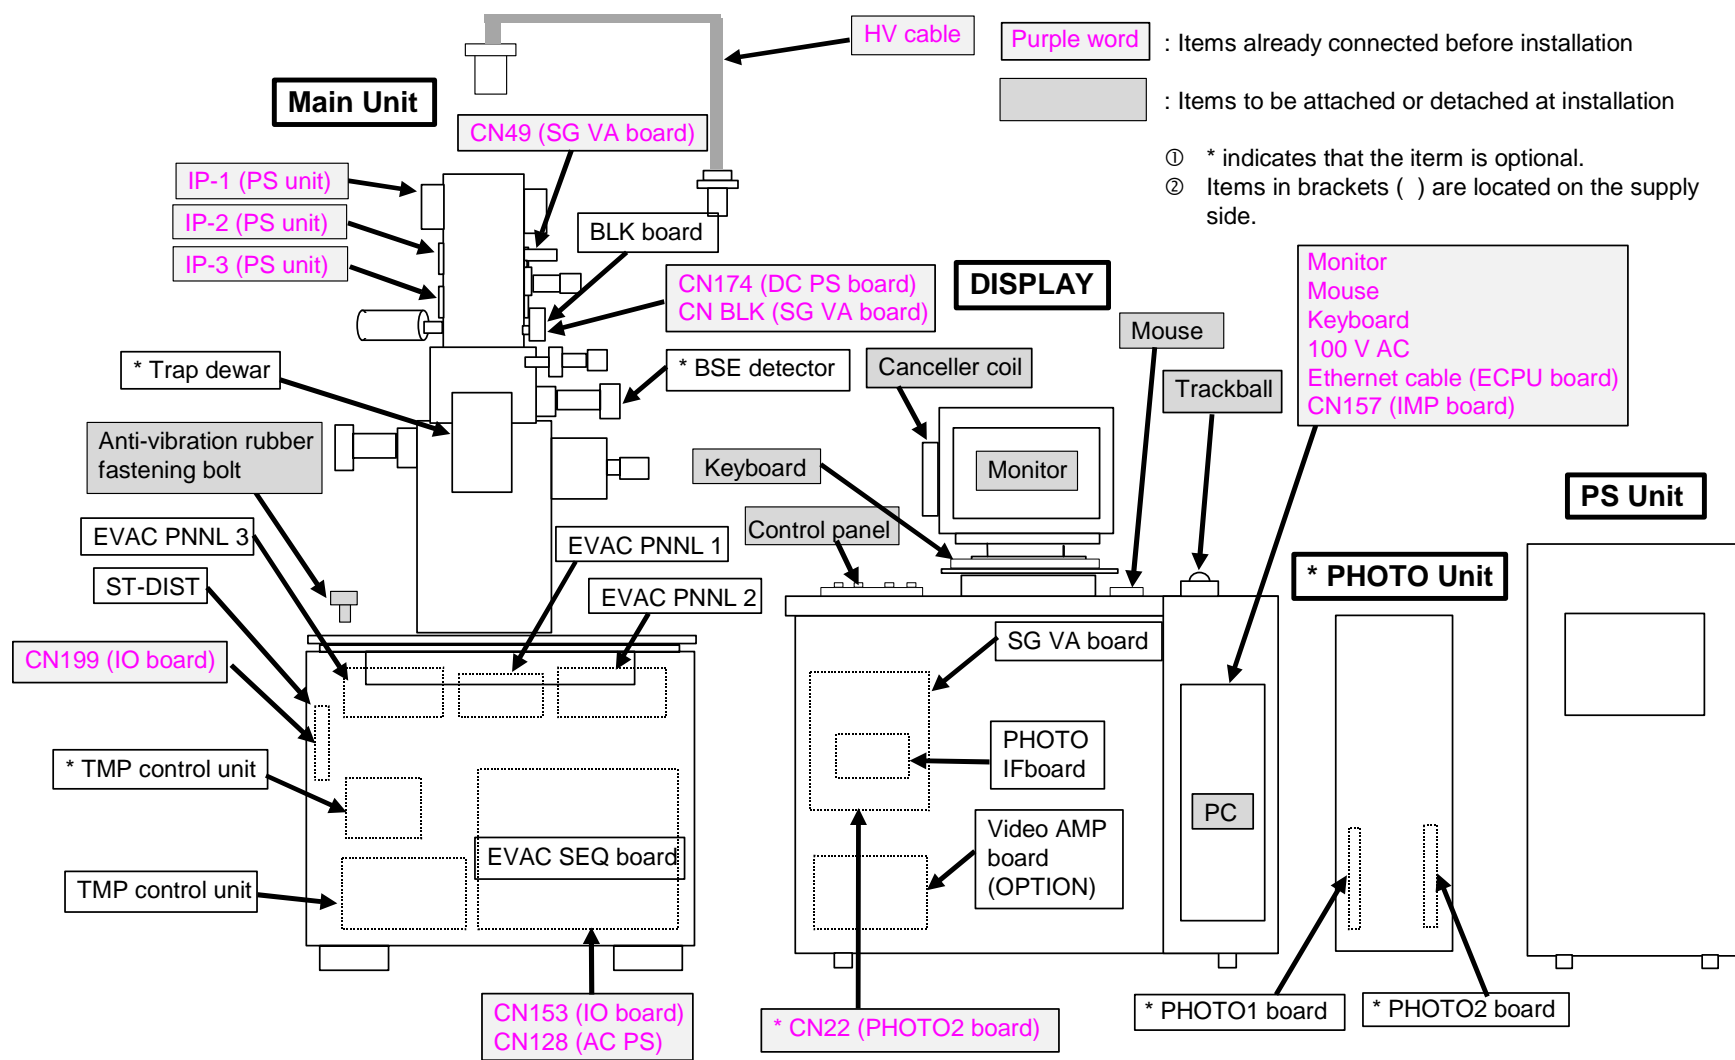

Figure 3-4: S-5200 Block Diagram (1)
2. Connect the cables and the connectors to the power unit, the main unit and the display unit according to the S-5200 Assembling and Wiring Diagrams (1) and (2) (Figures 3-4 and 3-5).
2. Connect the cables and the connector to the common power unit, the main unit and the display unit according to the S-5200 Block Diagrams (1) and (2) (**Figures 3-4** and **3-5**).